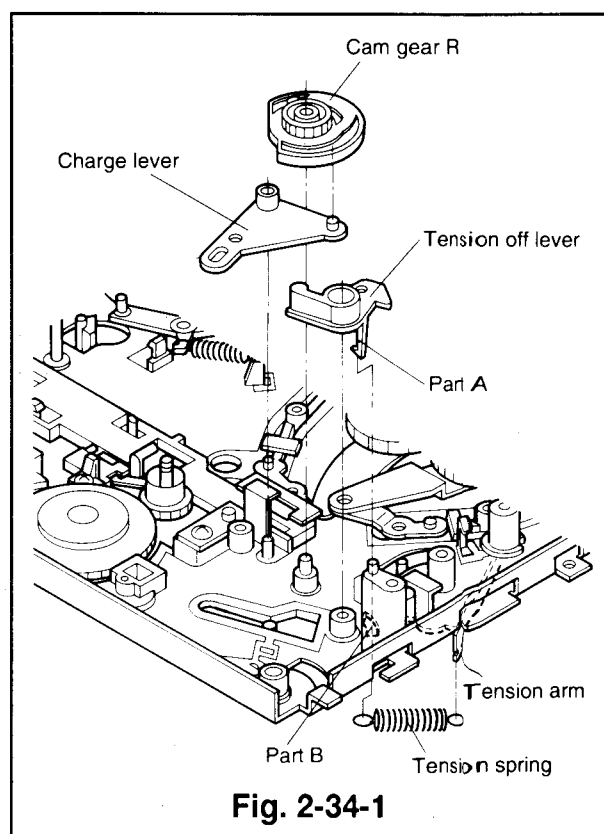

Fig. 2-34-1
(Refer to Fig. 2-34-1.)
- ⑨ Remove the charge lever. (Refer to Fig. 2-34-1.)
- ⑩ Remove the tension off lever. (Refer to Fig. 2-34-1.)
- ① Let part A pass through part B shown in Fig. 2-34-1 to install the tension off lever.
- ② Fix the charge lever to the shaft.